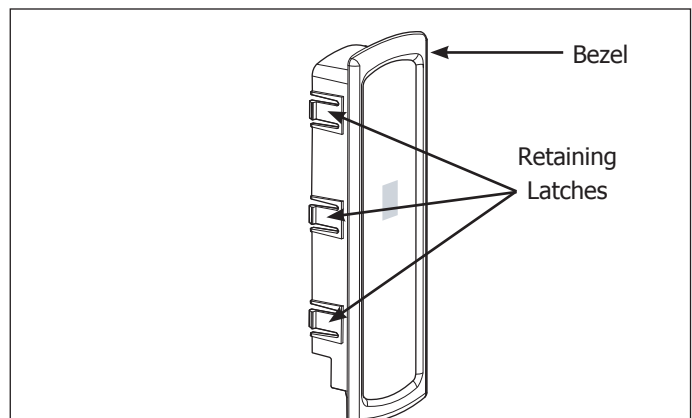

Figure 5-8. EZ Set Control Removal
2. Using a small flat bladed screwdriver, carefully pry under the bezel until the retaining latches release from the door assembly. Pull control assembly straight out to avoid damaging the electrical connection wire prongs. (See Figure 5-8)